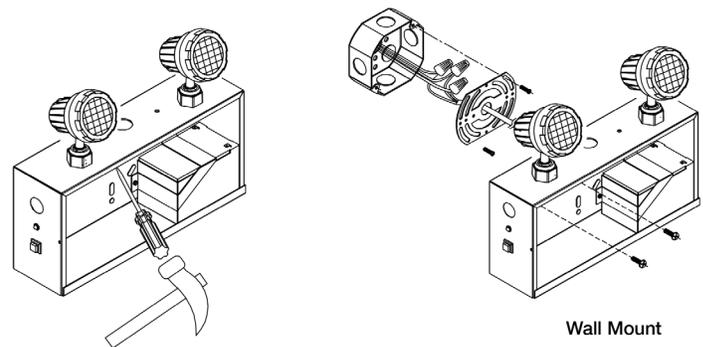

Fig. 2
- a. **Wall mounting:** the unit is supplied with universal spider knockouts and keyhole slots stamped into the back of the cabinet. Knock out the appropriate hole if using a junction box and bring the wires through the hole into the cabinet (Fig. 2). Mount the unit securely into place. Do not rely on the electrical box as the only support for the unit. Knock out the cabinet mounting holes and install the unit on the junction box and on the wall using appropriate screws and anchors (not supplied).